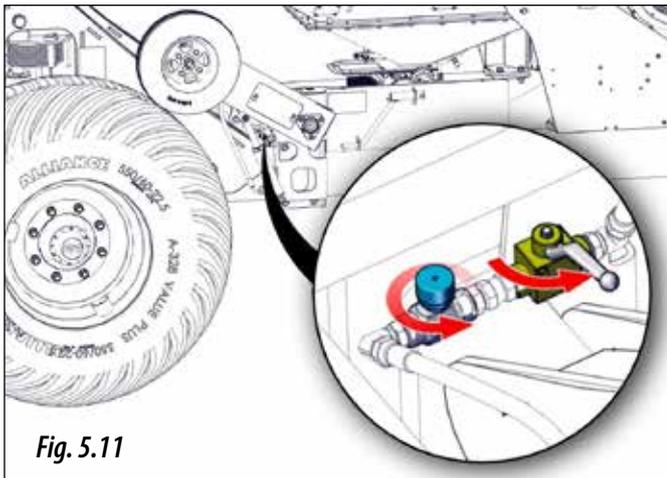

Fig. 5.11
**IMPORTANT :** SUR CERTAINS MODÈLES DE MACHINE, LA MISE SOUS PRESSION HYDRAULIQUE PEUT PROVOQUER LE RELÈVEMENT DE LA RAMPE DE SEMIS ET DE L'EFFACE-TRACES, MAIS PAS CELUI DE LA ROUE DE TRANSMISSION. LE CAS ÉCHÉANT, VÉRIFIER QUE LE ROBINET D'ARRÊT ET QUE L'ÉTRANGLEUR SITUÉ À CÔTÉ DE LA ROUE DE TRANSMISSION SONT OUVERTS (FIGURE 5.11).